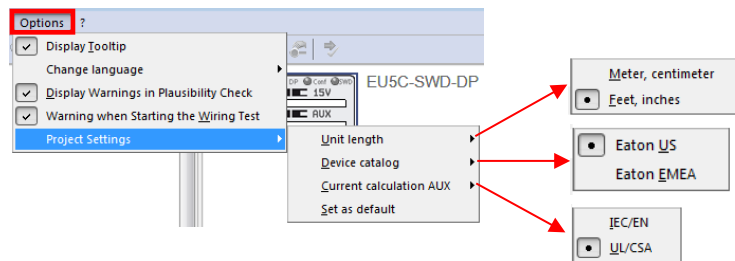

Figure 8: User will setup preferences in accordance with its region and local regulations.
1. After you have installed SWD Assist at your computer, verify that the software's project region and standards have been set in accordance with your preferences. This is, go to the Options/Project Settings menu and open it. See figure 8.